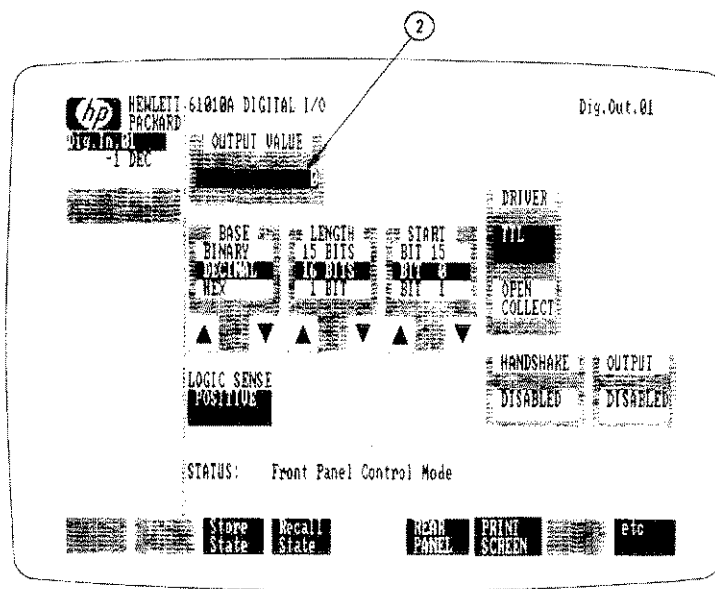

Figure 2-2. Select the Output Field
Step 2 - Once you select DIG.OUT.01, the DIG.OUT.01 information in the System View Window disappears, and a front panel representation of the Digital Output appears in the Interactive Instrument Window (see Figure 2-2). Notice that 0 is the current output value. To change this and output a different value, first point to and select the output field.